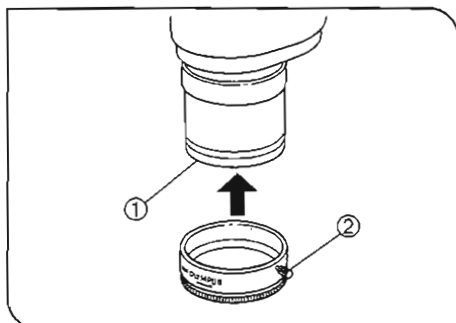

Fig. 19
- With the SZX-AN's label-side facing to the front, insert the analyzer into the distal end of the objective ① as far as it will go. Then tighten the fixing knob ② firmly. (Fig. 19)